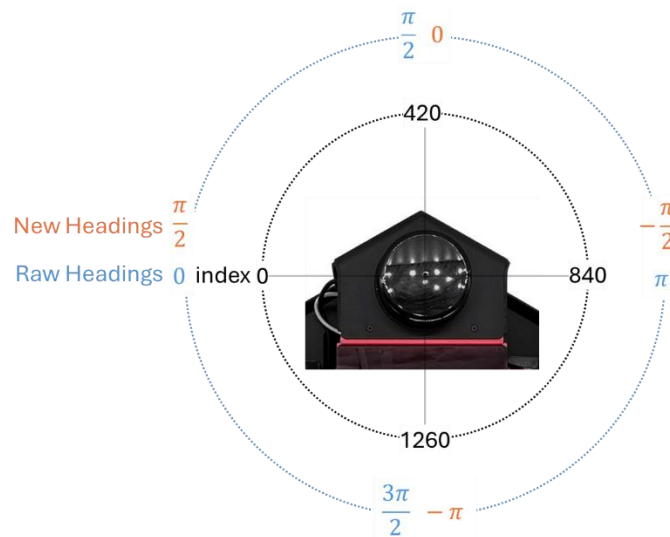

Figure 2. LiDAR measurement correction
3. Notice in **adjust\_and\_subsample()** under **QBPRanging()**, heading angles from the LiDAR sensor are multiplied by -1 and added to  $\pi/2$ . This is to correct the headings such that the angle value of 0 corresponds to the front of the QBot, as shown in Figure 2. In addition, the angles are now increasing counterclockwise, consistent with the positive convention of our reference frame. Furthermore, this function downsamples the distance and angle data, which is beneficial in the obstacle detection application as it allows for faster computation when high resolution is not necessary.